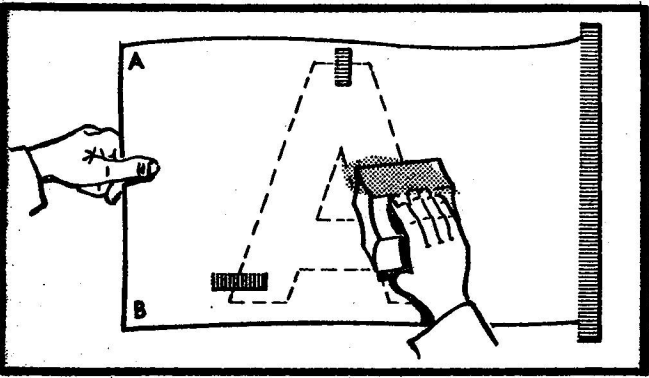

Figure 5
- (h) Swing decalcomania back into position, see Figure 5, but do not let it touch the surface until the plastic squeegee presses it down. Wipe over the entire application tape surface. Heavy pressure on the film is required for good contact with the application surface. Using heavy pressure and a wiping motion, draw plastic squeegee across film at an angle of 60° to the surface. Start wiping at the centre of one edge. Wipe toward the top edge and back down over the same area beyond the bottom edge. Always wipe at least half an inch beyond the edges to obtain good edge adhesion. Proceed across film with parallel, overlapping vertical strokes, exerting maximum pressure at all times.